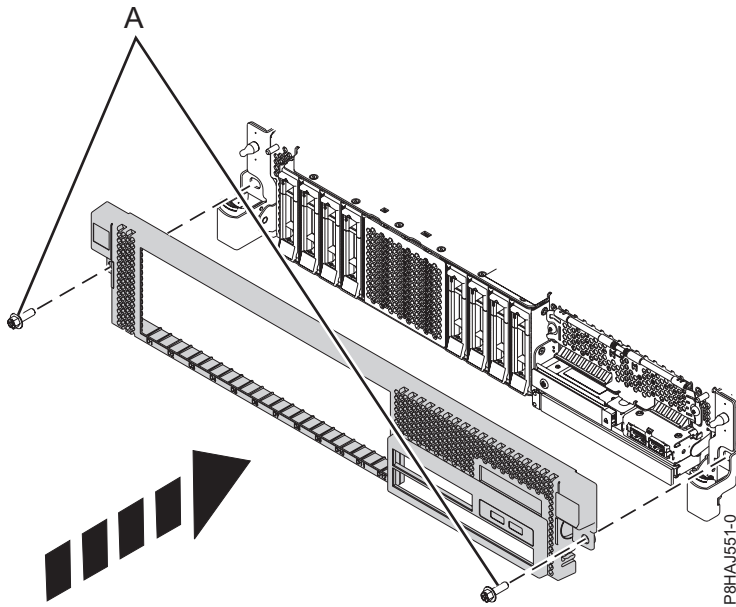

Figure 6. Installing the front cover
2. Close the release latches by pushing in the direction shown in Figure 6 on page 20. The cover snaps into place and has an indentation where you can hold onto it more easily.